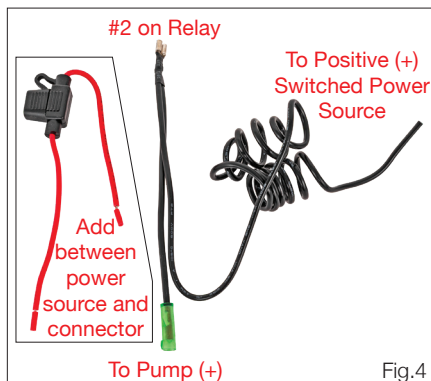

Fig.4
7. The female end connector will connect to terminal #2 on the relay, one wire to the positive (+) switched power source (to fuse), and the last wire to the positive (+) pump motor side. See Figure 4.